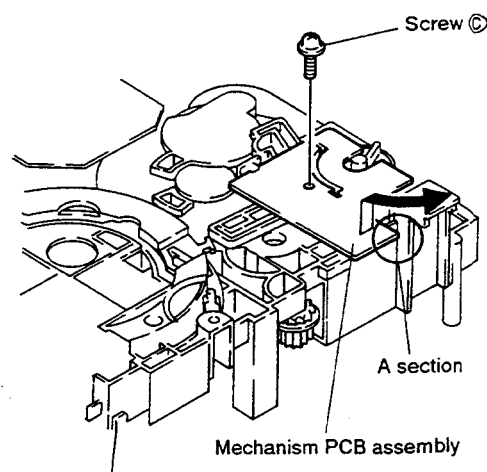

Fig. 1-7
- (4) Set the tray II to the Close position.
- (5) Remove screws holding the twin tray mechanism, and take out the twin tray mechanism from the body.
- (6) Turn over the twin tray mechanism to set the position as shown in Fig. 1-7.
- (7) Remove a screw ③ holding the mechanism PCB assembly.
- (8) Hold the A section of the mechanism PCB assembly and lift it up to the direction of the arrow, and remove the loading motor accompanied with the mechanism PCB assembly.